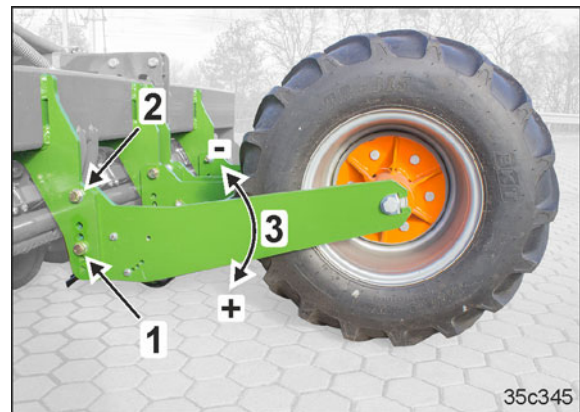

Fig. 205
1. Loosen the upper nuts (Fig. 205/2)
Prop up the support wheel arm before removing the bolts (Fig. 205/2)!
2. Loosen the lower nuts, remove the bolts (Fig. 205/1)
Position of the bolt (Fig. 205/1)	Height [mm] (Fig. 205/3)
4. Secure the support wheel arm with bolts (Fig. 205/1) and tighten with nuts
5. Tighten the upper nuts (Fig. 205/2)